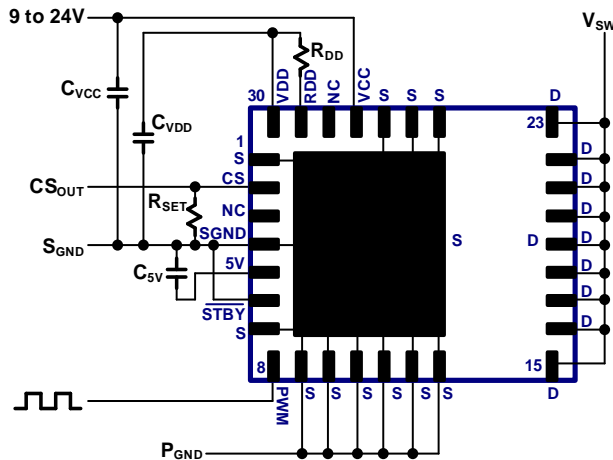

Fig. 20. GaNSense Power IC connection diagram
The typical connection diagram for this GaN Power IC is shown in Fig. 20. The IC pins include drain of the GaN power FET (D), source of the GaN power FET (S), IC supply (V_{CC}), gate drive supply (V_{DD}), gate drive turn-on control SET input (R_{DD}), PWM input (PWM), separate signal GND (S_{GND}), current sensing output (CS), auto-standby mode input (\overline{STBY}), and 5V supply (5V). The Source pad and Source pins (S) should all be connected to the system P_{GND} . S_{GND} pin 4 must be connected directly to Source PAD underneath IC. The Source pins (S) should each be connected externally to the Source pad directly underneath the IC. The Drain Pins (D) should all be shorted together by copper in the layout (see Section 9). The external components around the IC include V_{CC} filter capacitor (C_{VCC}) connected between V_{CC} pin and S_{GND} pin, V_{DD} filter capacitor (C_{VDD}) connected between V_{DD} pin and S_{GND} pin, turn-on dV/dt set resistor (R_{DD}) connected in between V_{DD} pin and R_{DD} pin, a current sense amplitude set resistor (R_{SET}) connected between CS pin and S_{GND} , and auto-standby mode pin (\overline{STBY}) connected to S_{GND} . An external capacitor (C_{5V} , 0.01uF max) is required between pin 5V and S_{GND} . This 5V pin is for internal purposes only and must not be used for biasing external circuitry.